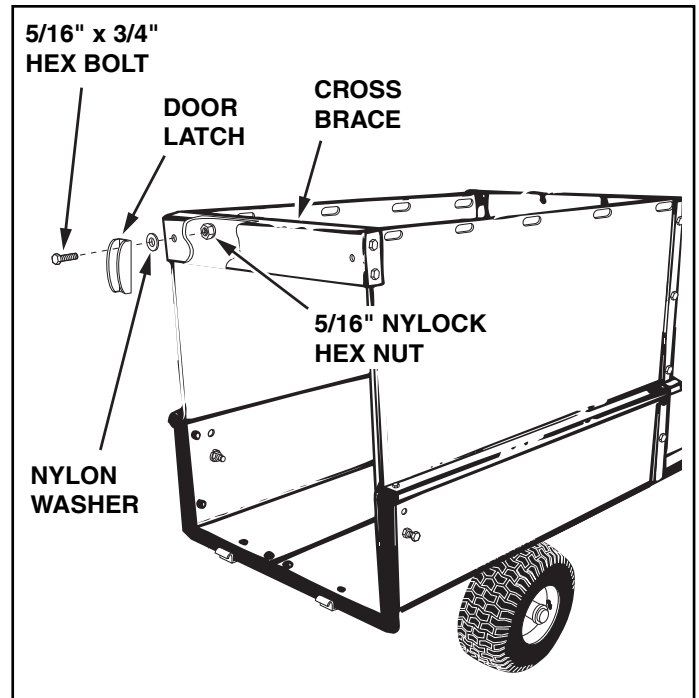

FIGURE 13
23. Assemble a door latch at each end of the cross brace using a 5/16" x 3/4" hex bolt, a nylon washer and a 5/16" Nylock hex nut. Place the nylon washer between the door latch and cross brace. **Tighten** so that latch is snug but will still rotate. See figure 13.